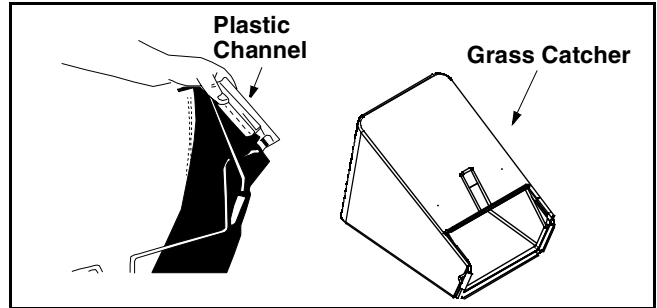

Figure 7
- All the plastic channels attach from the outside of bag. See Figure 7.